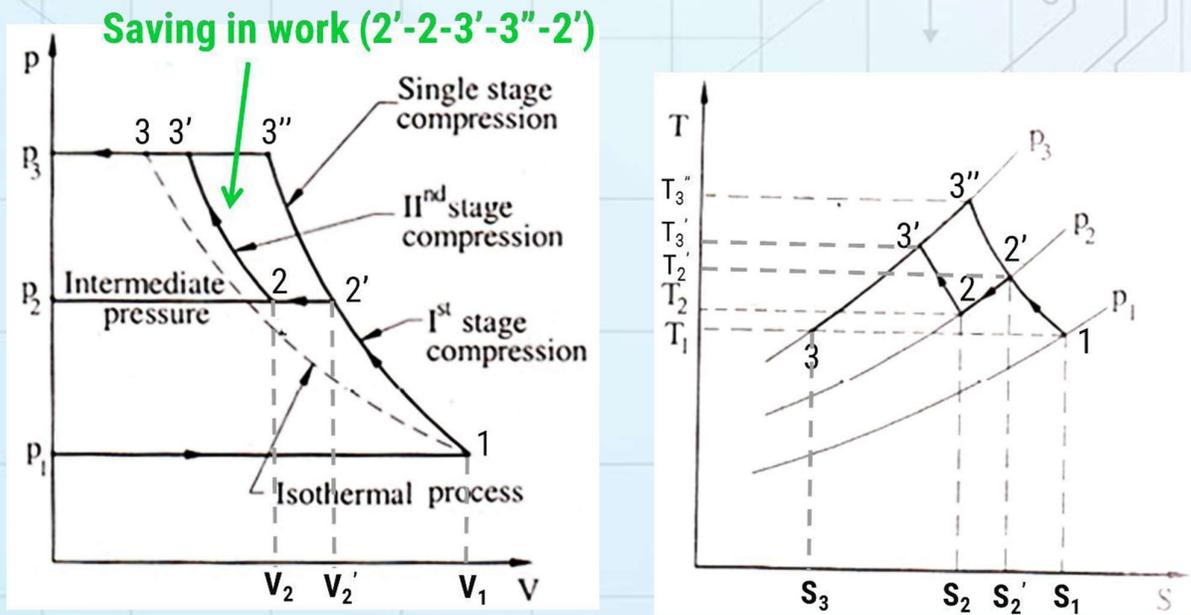

Fig.7.5 – P-V and T-S diagram with incomplete intercooling of air
- ▶ If the temperature of air leaving the intercooler, T_2 is greater than the original atmospheric air temperature T_1 then the intercooling is called imperfect or incomplete cooling as shown in Fig. 7.5.
- ▶ In this case point '2' lies on the right side of isothermal curve as shown in Fig. 7.5.